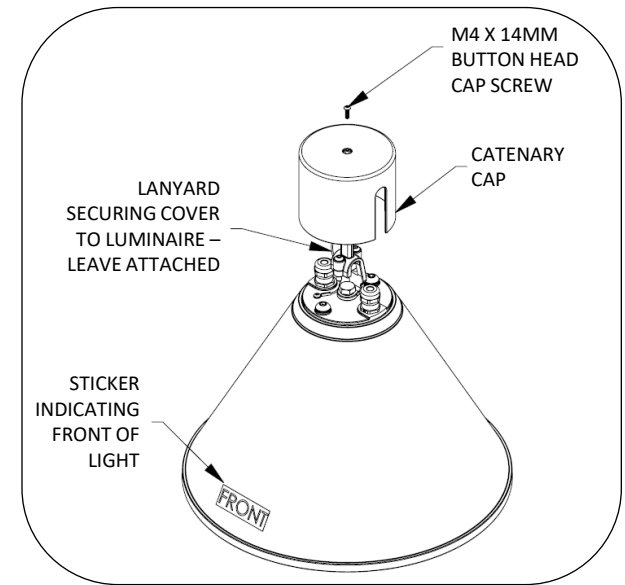

Fig. 1 – REMOVE CATENARY CAP
2. Remove catenary cap, see Fig. 1. Cap is attached to lid with a lanyard – do not detach the lanyard.